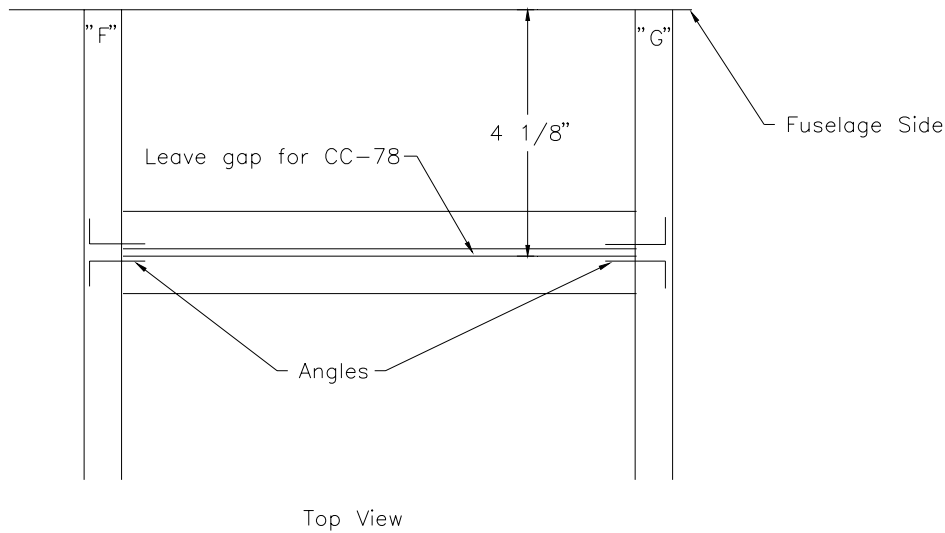

Figure 20.6.2
- 3) Cut four angles from (ST-31) for attachment and attach channel into position. Rivet angles similar to the floor channels using 1/8" rivets (RV-1410). Figure 20.6.2. **NOTE:** Do not rivet one channel in place yet. You have to final install the Hanger first.